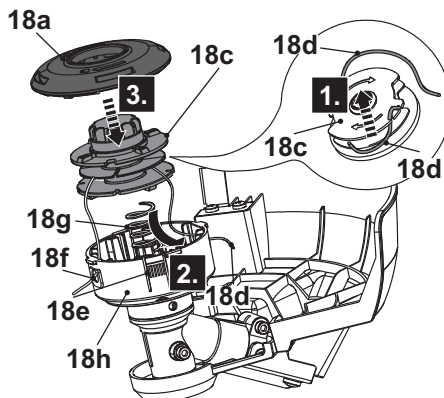

Fig. 29
9. Release the trimming line (18d) from the notches and hold it in position. Avoid the trimmer line (18d) scattered from the trimming spool (18c) (Fig. 29, Step 1).
10. Lead the trimming line ending through the eyelet (18f) on the housing (18h) (Fig. 29, Step 2).
12. Insert the trimming spool (18c) into the housing (18h) (Fig. 29, Step 3).